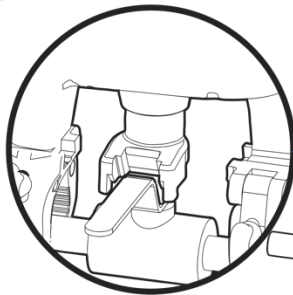

Figure 6A
- Align the Fork opening of BVS to Valve Handle. *Refer to “Figure 6A”